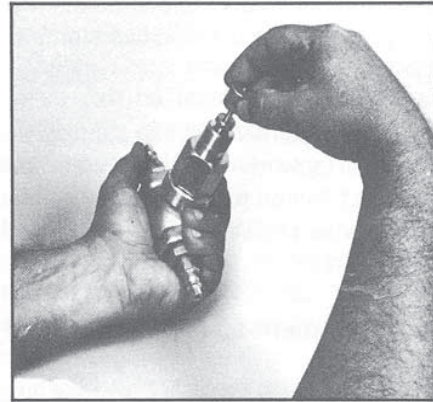

FIG. 6
**NOTE:** All replacement trim sets have been prelapped at the factory. When installed per instructions, trims should leak no more than 1/10 of one percent of maximum flow for the given size, (ANSI Class III). If necessary, with care, bubble-tight shutoff can normally be achieved by lapping in seating surfaces with the innervalue set installed in the body bonnet assembly using lapping compound (white aluminum oxide 38-1000 grit) with the packing removed, using the packing glands as the upper guide (brass lap bushing available at factory). See Figure 6. Lapping should be done with a